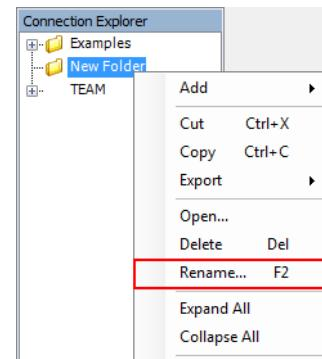

Figure 144 Rename Folder
Step 11. Right-click New Folder and select Rename, as shown in Figure 144.